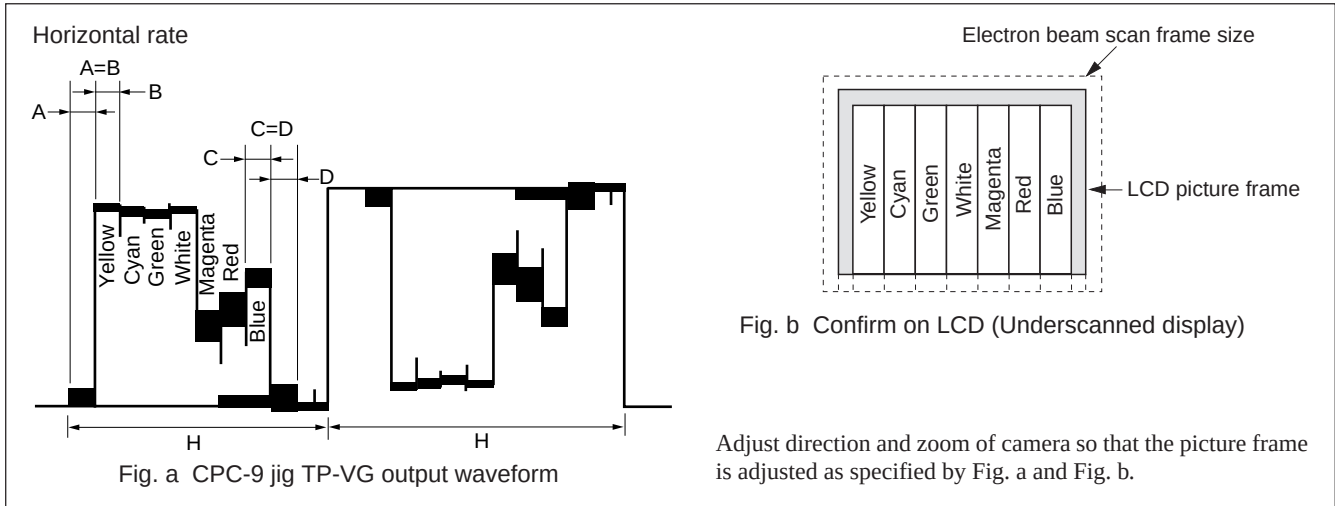

Fig. 5-1-3
- Adjust the picture frame as shown in Fig. 5-1-3.
- Adjust camera zooming and direction until the camera output waveform on the oscilloscope shown in Fig. 5-1-3 (a) and the color picture on the LCD shown in Fig. 5-1-3 (b) have been acquired.